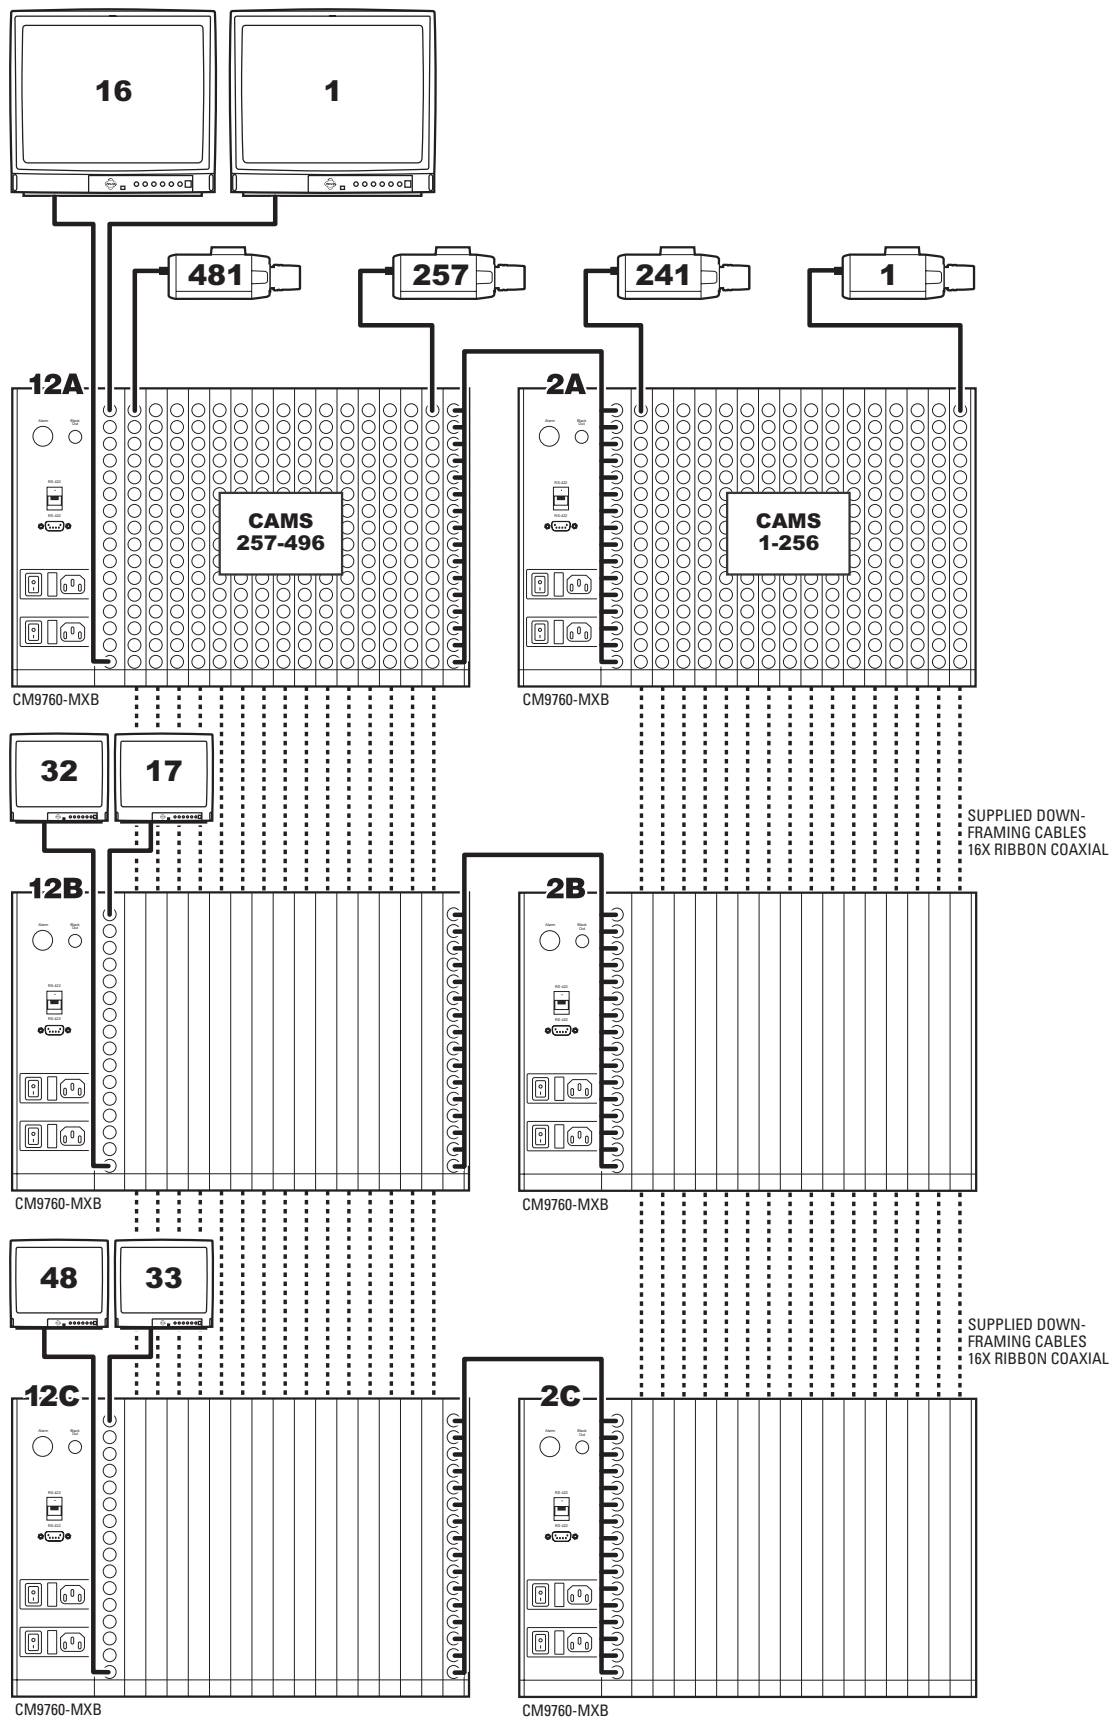

Figure 69. Sideframing and Downframing: 496 x 48 Configuration
- 496 x 48 (refer to Figure 69)